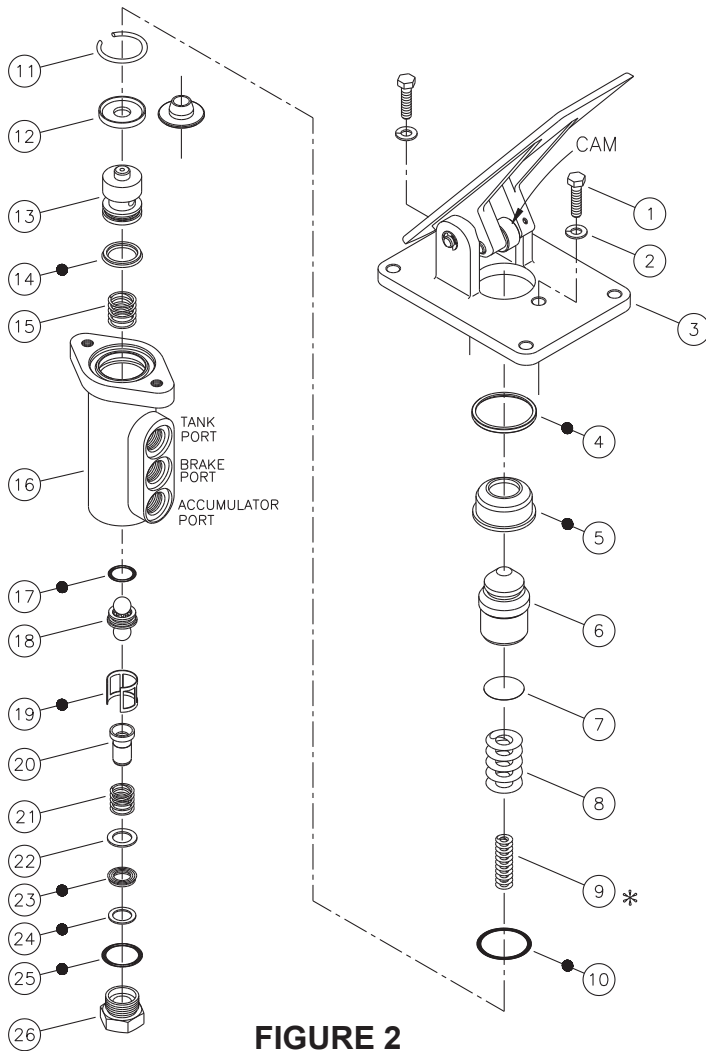

FIGURE 2
(Refer to Figure 2)
1. Separate pedal and base assembly (3) from valve by removing cap screws (1) and lock washers (2).
2. Remove ring (4) and boot (5) from housing (16).
3. Remove input piston (6), shim(s) (7), spring (8) and spring (9) from housing bore. Note number of shim(s) removed for reassembly purposes. **NOTE: Not all models use spring (9). Piston (6) shown in Figure 2 may appear different than the piston removed from your valve.**
4. Remove o-ring (10) from housing bore. **NOTE: Be careful not to scratch housing bore.**
5. Remove retaining ring (11) from housing bore. **NOTE: Be careful not to scratch housing bore.**
6. Remove cupped washer or spring retainer (12) from housing bore. **NOTE: Some models use a flat washer in place of cupped washer (12).**
7. Remove piston (13) from housing bore. **NOTE: Piston (13) in some models contain a spring pin and ball. It is not necessary to remove the spring pin or ball unless the ball is not moving freely. Ball must be clean and move freely.**
8. Remove spring (15) and cup (14) from piston (13). Note direction of cup (14).
9. Remove plug (26) from housing (16).
10. Remove o-ring (25), cup (23), and back-up ring (24) from plug (26).
11. Remove washer (22), spring (21), guide (20) and spacer (19) from housing bore.
12. Remove ball valve assembly (18) from housing bore.
13. Remove o-ring (17) from valve assembly (18).
1. Install new o-ring (17) on ball valve assembly (18) and insert into housing bore. Note direction of valve assembly. **NOTE: Be sure valve assembly seat is fully seated into housing.**
2. Install new spacer (19) into housing bore.
3. Install new o-ring (25) on plug (26).
4. Insert new back-up ring (24) and new cup (23) inside of plug (26). Note direction and order of back-up ring and cup.
5. Install guide (20), spring (21) and washer (22) in plug (26). Install plug (26) in housing bore and torque 54.2-67.8 N·m (40-50 lb·ft).
6. Install new cup (14) and spring (15) on piston (13). Note direction of cup (14).
7. Install piston (13) in housing bore. Note direction of piston (13).
8. Install cupped washer or spring retainer (12) in housing bore. **NOTE: Some models use a flat washer in place of cupped washer (12).**
9. Install retaining ring (11) in housing bore. **NOTE: Be careful not to scratch housing bore.**
10. Install new o-ring (10) in housing bore.
11. Install spring (9), spring (8), shim(s) (7) and input piston (6) in housing bore. Be sure to install the same number of shim(s) as were removed during disassembly. **NOTE: Not all models use spring (9). Input piston (6) shown in Figure 2 may appear different than the piston removed from your valve.**
12. Install new boot (5) and new ring (4) on housing (16).
13. Attach pedal and base assembly (3) to valve using cap screws (1) and lock washers (2). Torque cap screws 47.5-54.2 N·m (34-40 lb·ft).